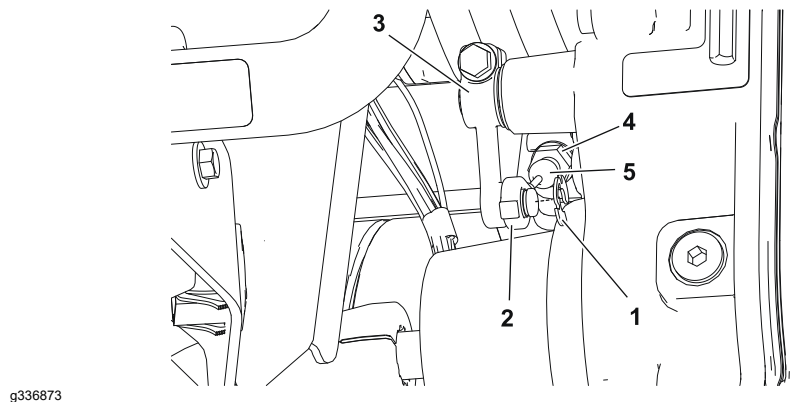

Figure 78
3. Remove the brake cable (item 5 in Figure 78) from the brake lever shaft on the transmission gear box assembly as follows:
- A. Loosen the front cable jam nut (4) that secures the brake cable to the casting slot on the transmission gear box assembly. Remove the brake cable from the slot.
- B. Remove the retaining ring (1) that secures the cable eyelet (2) to the brake lever (3) on the transmission gear box assembly.
- C. Remove the brake cable eyelet (2) from the brake lever (3).